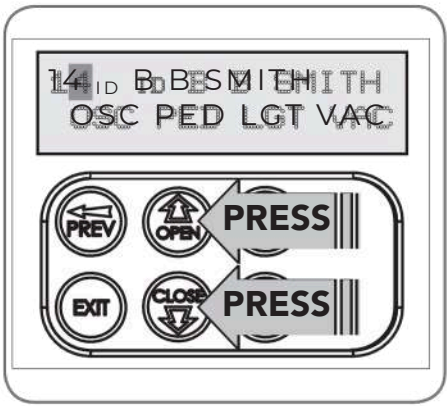

Fig H.3
- a. Press the UP or DOWN arrows to navigate through the list (Fig. H.3).